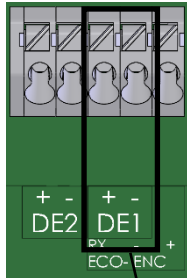

Fig. 9
1. Connect the pulse output of the gas meter to the DE1 terminal (**1** in Fig. 9) of the EK205-M. The priority can be freely selected. (The labels + and - of the terminals are intended for connecting other pulse transducers.)
3. Have the temperature sensor sealed using a lead-sealing socket **1** and the wire seal **3** in accordance with Fig. 9 by a calibration officer.